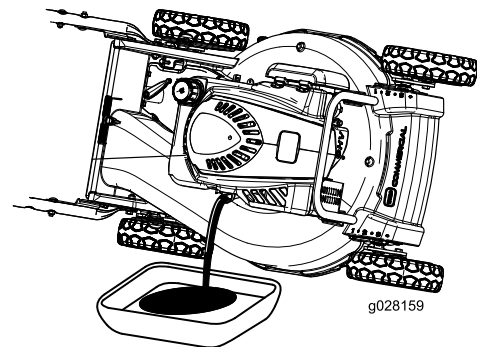

Figure 19
3. Tip the machine onto its side, with the dipstick down, to drain the used oil out through the oil-fill tube (Figure 19).